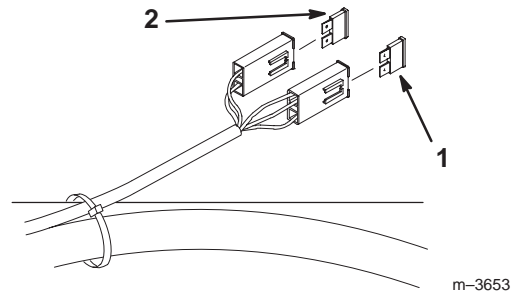

Figure 59
1. Unlatch the seat and raise the seat to gain access to fuse holder (Fig. 59).
3. Install a new fuse (Fig. 59).